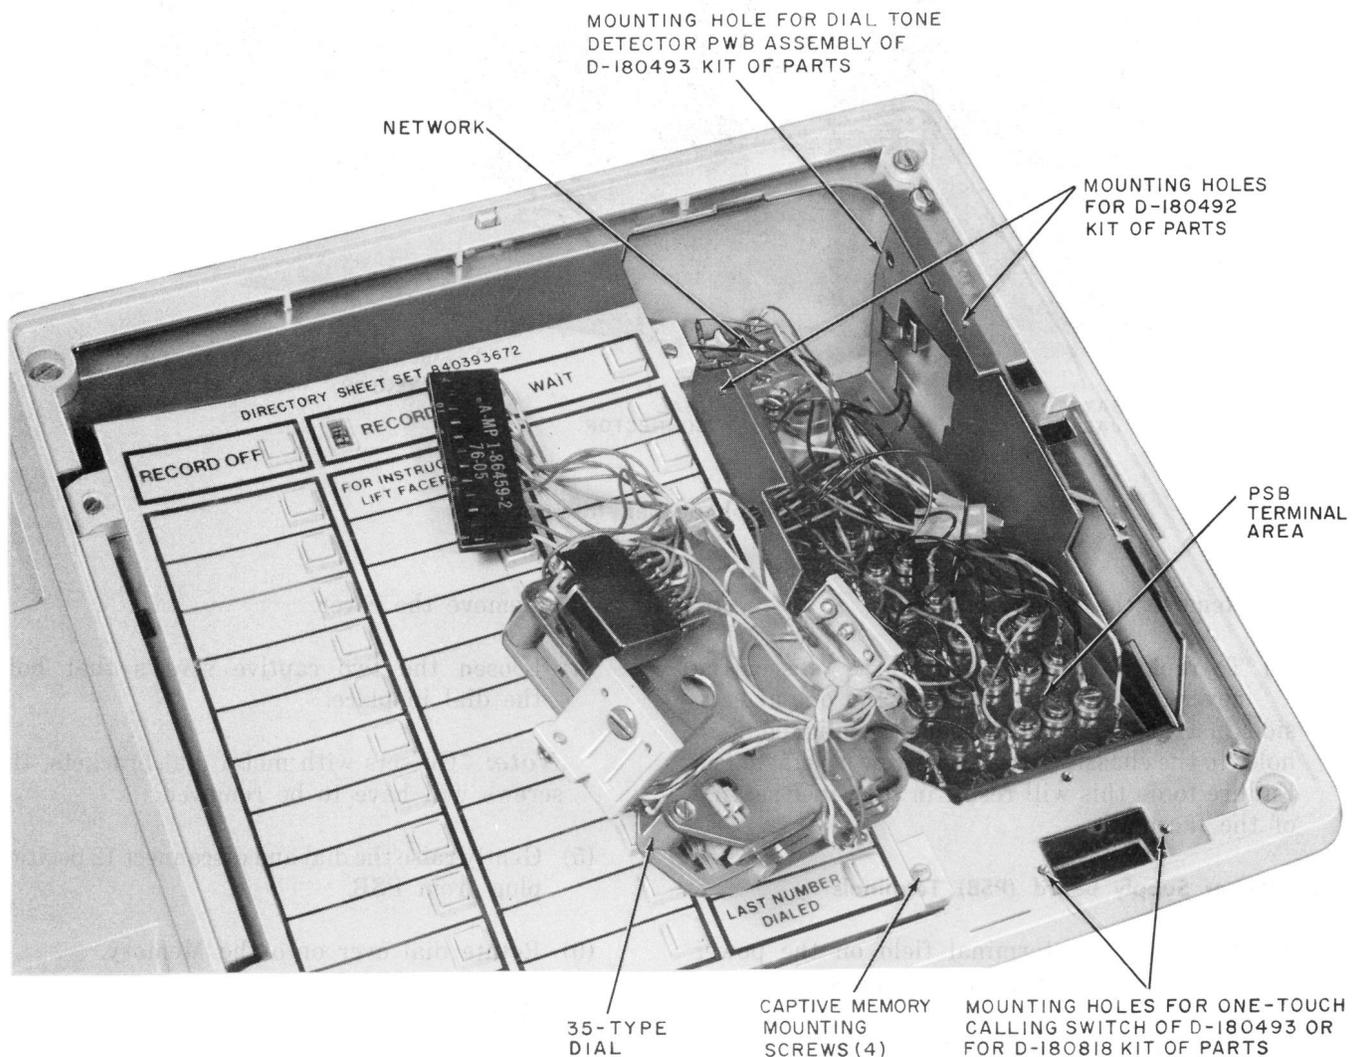

Fig. 4—Telephone Set—Dial Removed to Show Terminal Area
- Terminal board (TB).
- (b) Under the faceplate, inside the set (Fig. 4 and 5):
- Power supply (PSB) terminal area (Fig. 4)
- Network (Fig. 4)
- Options (Fig. 4):